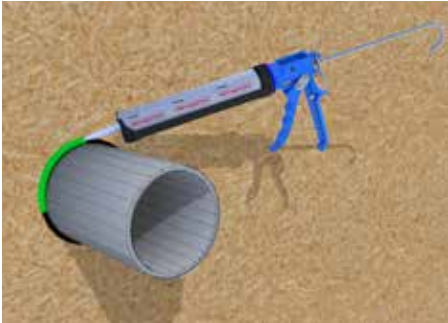

Fig.21
1. Pre-fill any joints, gaps and cracks wider than 6mm with a generous bead of Wraptite Liquid Flashing (LF) and allow to cure fully.
2. Fill remaining joints, gaps and cracks less than 6mm with Wraptite LF and smooth across the rough surface with a putty knife (Figs. 21 & 22).